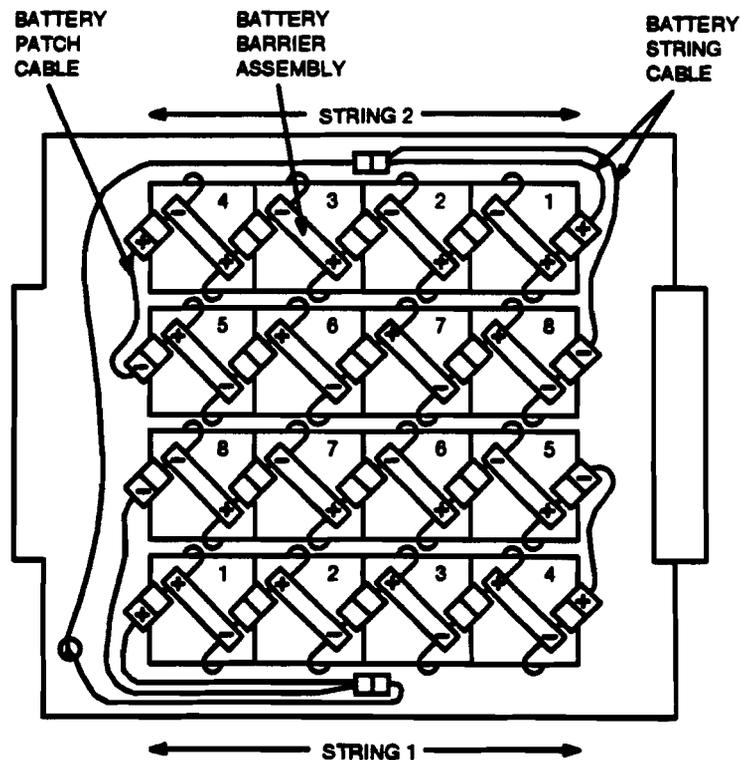

Figure 2 — Chloride Battery String Connections and Position in 80A Cabinet
Connect patch cord [Figure 2] to **BAT (-)** connector of battery 5.
16. As shown in Figure 2, place batteries 5 through 8 (with cable assemblies) in battery compartment in position for battery string 1 or 2.
Connect batteries together by plugging **BAT (-)** connector from one battery into **BAT (+)** connector from next battery [Figure 2].
18. Place batteries 1 through 4 in positions shown in Figure 2.
19. Connect other end of patch cord [Figure 2] to **BAT (+)** connector of battery 4.
Connect batteries together by plugging **BAT (-)** connector from one battery into **BAT (+)** connector from next battery [Figure 2]. Repeat for remaining batteries in battery string.